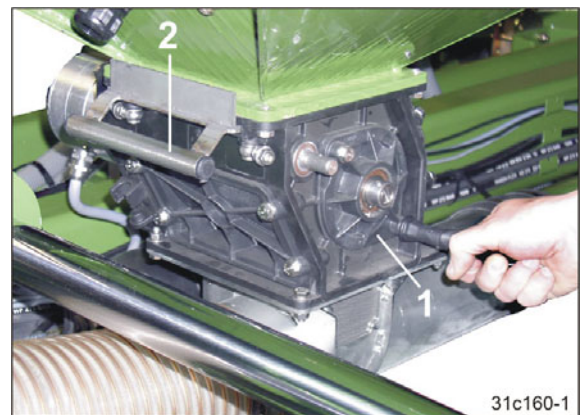

Fig. 251
5. Close the housing cover (Fig. 251/1).
6. Pull the shutter (Fig. 251/2) slowly out of the metering unit.